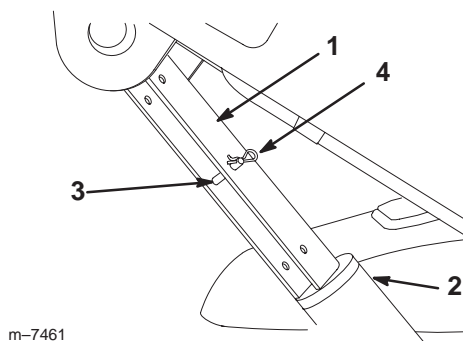

Figure 22
4. Remove the hairpin cotter and clevis pin securing the cylinder lock to the frame(Fig. 22)
5. Place the cylinder lock over the cylinder rod and secure it with the clevis pin and hairpin cotter (Fig. 22).
5. Place the cylinder lock in its storage location on the frame and secure it with the clevis pin and hairpin cotter (Fig. 22).